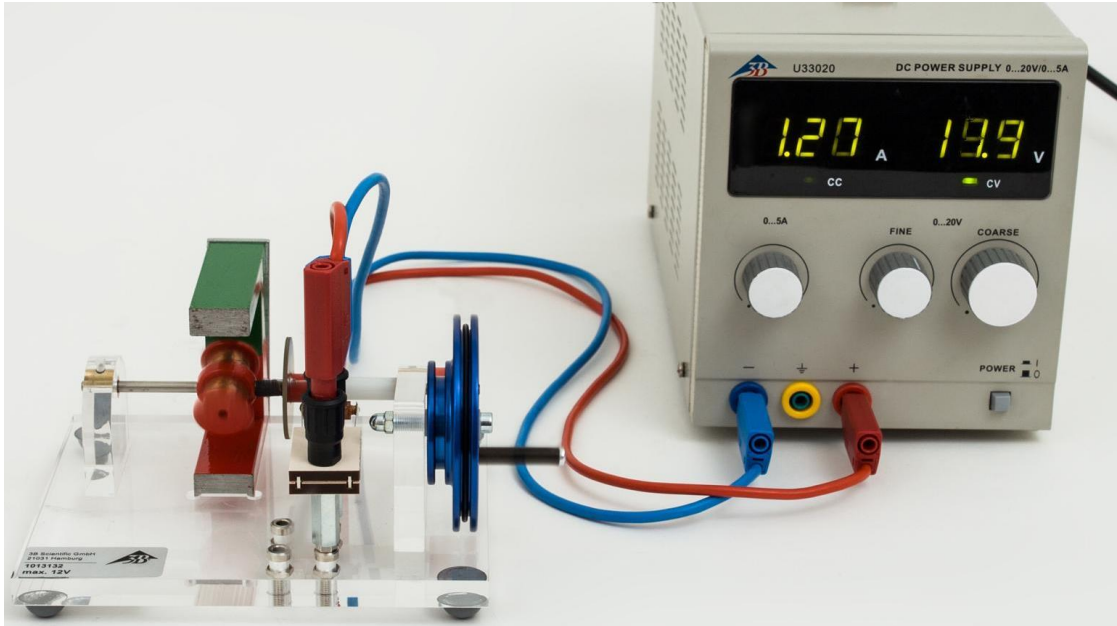

Fig. 2 Operation as a DC motor
- Insert the current collectors into the right-hand pair of sockets of the terminal panel on the base plate (see Fig. 2).